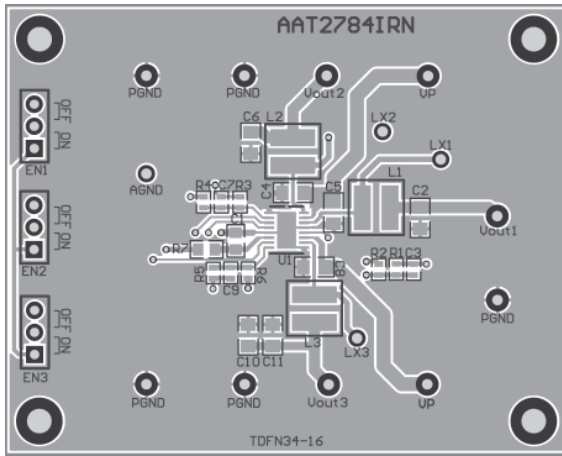

Figure 2: AAT2784 Evaluation Board Component Side Layout
The term $\frac{V_O}{V_{IN}}$ appears in both the input voltage ripple and input capacitor RMS current equations and is a maximum when V_O is twice V_{IN} . This is why the input voltage ripple and the input capacitor RMS current ripple are a maximum at 50% duty cycle. The input capacitor provides a low impedance loop for the edges of pulsed current drawn by the AAT2784. Low ESR/ESL X7R and X5R ceramic capacitors are ideal for this function. To minimize stray inductance, the capacitor should be placed as closely as possible to the IC. This keeps the high frequency content of the input current localized, minimizing EMI and input voltage ripple. The proper placement of the input capacitor (C_1) can be seen in the evaluation board layout in the Layout section of this datasheet (see Figure 2). A laboratory test set-up typically consists of two long wires running from the bench power supply to the evaluation board input voltage pins. The inductance of these wires, along with the low-ESR ceramic input capacitor, can create a high Q network that may affect converter performance. This problem often becomes apparent in the form of excessive ringing in the output voltage during load transients. Errors in the loop phase and gain measurements can also result. Since the inductance of a short PCB trace feeding the input voltage is significantly lower than the power leads from the bench power supply, most applications do not exhibit this problem. In applications where the input power source lead inductance cannot be reduced to a level that does not
The suggested PCB layout for the AAT2784 is shown in Figures 2 and 3. The following guidelines should be used to help ensure a proper layout.
1. The power input capacitors (C5 and C8) should be connected as closely as possible to VP1_2, VP3 and PGND1,2,3 as shown in Figure 2. Due to the pin